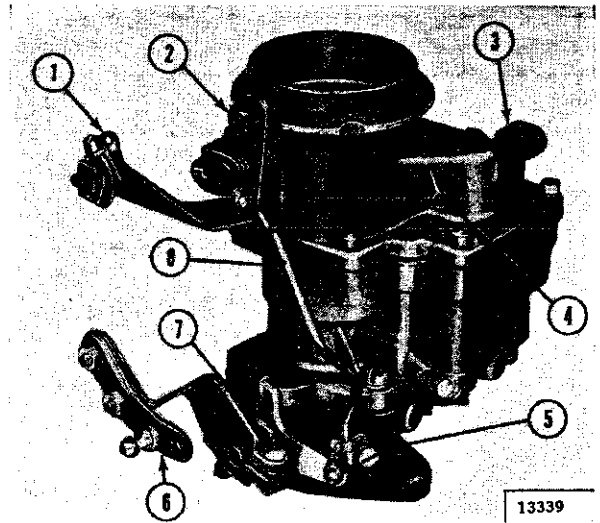

FIG. C-24—CARBURETOR—
● Refer to Fig. C-24, C-25 and C-26.
- e. Carburetors without Idle Limiter Cap turn idle mixture screws out (counterclockwise) until a loss of engine speed is indicated; then, slowly turn mixture screw in (clockwise-leaner) until maximum speed (RPM) is reached. Continue turning in (clockwise) until speed begins to drop; turn mixture adjustment back out (counterclockwise-richer) until maximum speed is just regained at a "lean as possible" mixture adjustment. Refer to Fig. C-24.